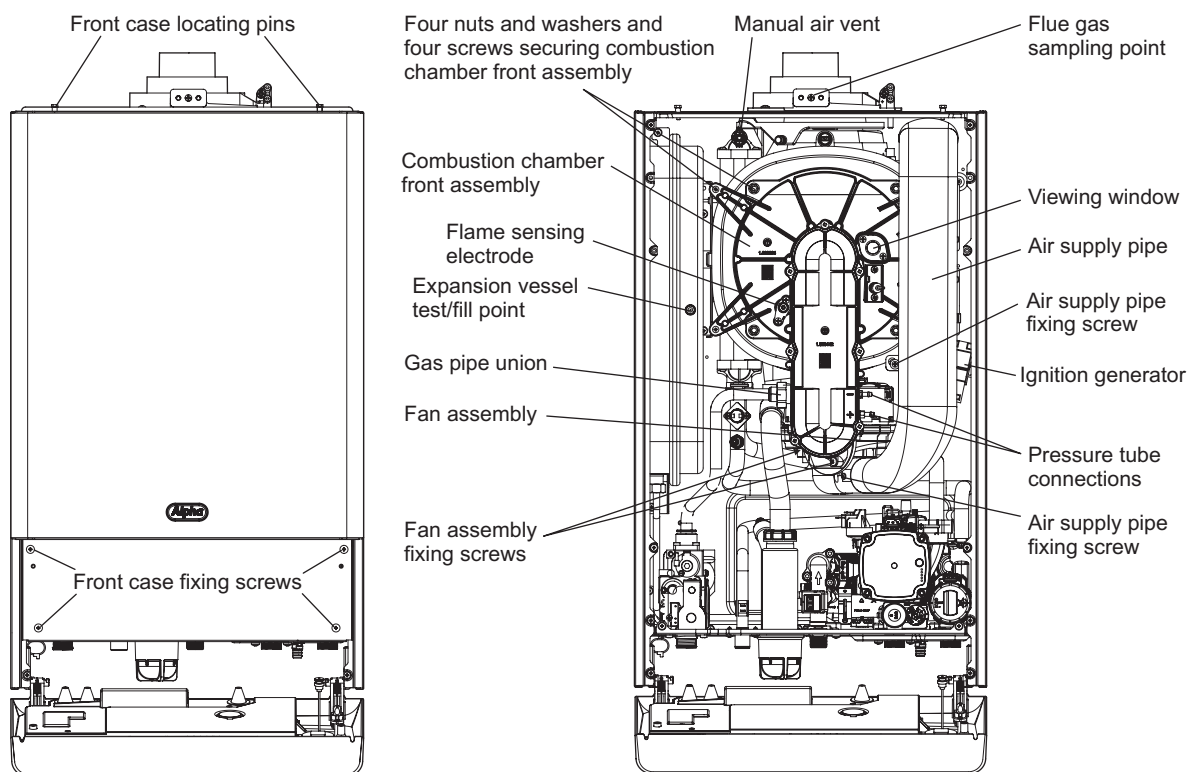

Fig. 6.1
Connect the flue gas analyser to the flue gas sampling point as shown in Fig. 6.1.
Notes: 1. Prior to servicing, it is recommended that a flue gas analyser is used to measure the performance of the boiler (refer to Fig. 6.1 for the position of the flue sampling point). If the CO/CO₂ ratio measured is greater than 0.003 **or** when other checks and comments from the customer have indicated that there may be problems, cleaning of the heat exchanger will be necessary. All Sections 6.1, 6.2, 6.3 and 6.4 **must** be carried out. Repeat the flue gas analyser test after reassembling the boiler and check that the CO/CO₂ ratio is less than 0.003.
3. Refer to Fig. 6.1 for location of flue sampling point.
6.2 PREPARE FOR SERVICING - Fig. 6.1
7.1 GENERAL ACCESS - Fig. 6.1
7.5 BURNER INJECTOR - Fig. 6.1
7.6 FAN - Fig. 6.1
2. Remove the two screws securing the air supply pipe (see Fig. 6.1) and remove the pipe.
3. Unplug the fan plug and remove the two screws securing the fan to the combustion chamber front (see Fig. 6.1).
2. Remove the screw securing the air supply pipe (see Fig. 6.1) and remove the pipe.